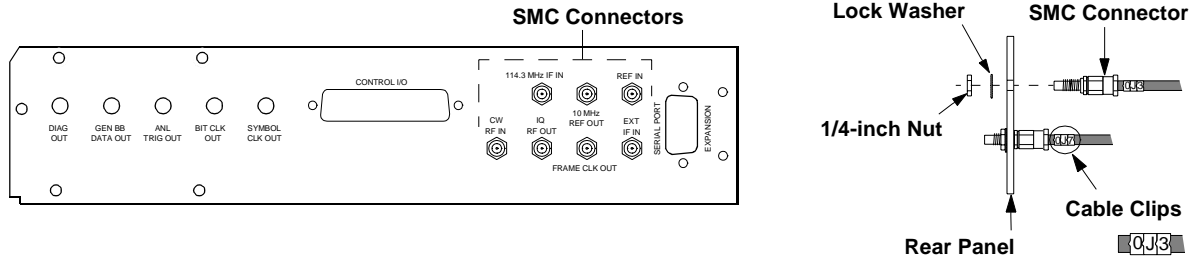

Figure 24 Rear Panel SMC Connector Removal
- Access to other assemblies on the deck is possible without removing the SMC connectors (shown in figure 24) from the rear panel. If complete removal of the rear panel is necessary, use a 1/4-inch wrench or deep nut-driver to disconnect the SMC connectors from the rear panel.
This completes the procedure for the removal of the rear panel. Cable clips identify the location of each SMC connector on the rear panel (see figure 24). If the connectors are removed from the rear panel, use table 6 below to identify the location of the connectors when reinstalling the panel.